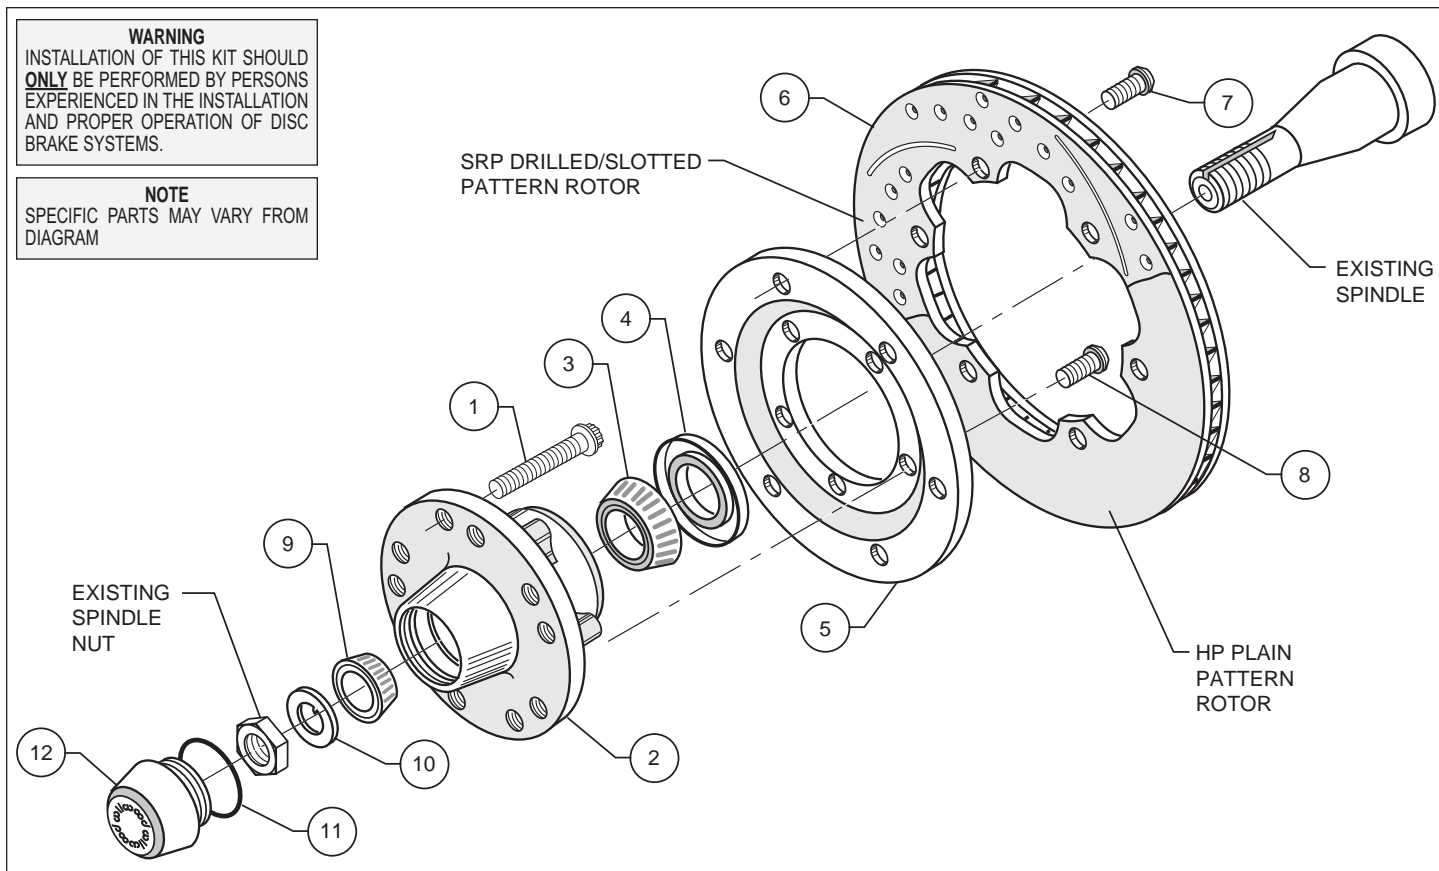

Figure 1. Typical Installation Configuration
- Install wheel studs (1) into the hub (2). Torque to 77 ft-lb. **NOTE:** *There are two five lug patterns in the hub (5 x 4.50 and 5 x 4.75). Make sure of the correct hole pattern for the correct wheel application before installing studs into hub.*
- Pack the large inner bearing cone (3) with high temperature disc brake bearing grease (available from your local auto parts store) and install into the backside of the hub (2).
- Install the grease seal (4) by pressing into the backside of the hub (2).
- Orient the rotor (6) and the rotor adapter (5) as shown in Figure 1. Attach the rotor to the adapter using bolts (7). Using an alternating sequence, apply red *Loctite® 271* to the threads, and torque to 25 ft-lb.
- Mount the adapter/rotor assembly (5/6) to the hub (2) using bolts (8) (finger tight), as shown in Figure 1. Using an alternating sequence, remove bolts one at a time, apply red *Loctite® 271* to the threads, and torque to 45 ft-lb.
- Pack the small outer bearing cone (9) with high temperature disc brake bearing grease and install into front of hub (2). Slide the hub/rotor assembly (2 and 6) with outer bearing cone onto the spindle. Secure using spindle washer (10), stock adjusting nut and nut locking device. Adjust bearings per Original Equipment Manufacturer (OEM) specifications.
- Install the dust cap (12) onto the hub (2) with a new o-ring (11). Friction created by the o-ring (reuse existing) on the dust cap keeps it from unscrewing. The O.D. of the spindle washer may be larger than the I.D. of the dust cap not allowing it to seat against the hub face. Some grinding on the washer O.D. may be necessary to clear the I.D. of the dust cap.